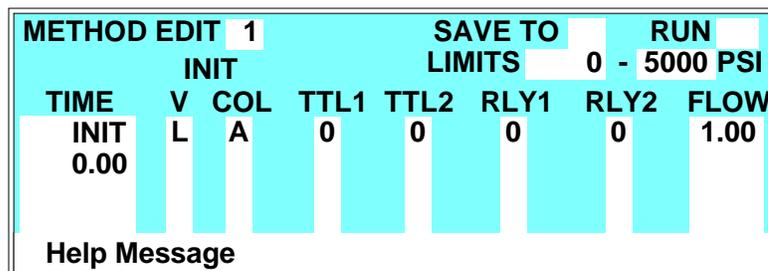

Figure 3-3. Method Screen: Creating a New Method
- In the **V** column, select the position of the injection valve, either **L** for load or **I** for inject (see Figure 3-3).
4. In the **EDIT** field, enter the number of the method to be created. You can enter the number of an unused method or the number of an existing method that you want to edit and save as a new method. If you enter the number of an unused method, the screen will look similar to the example screen in Figure 3-3.
6. Each method starts out with two timed steps (see Figure 3-3). The first step is an initial conditions step with **INIT** in the **TIME** column. The second step is a time zero step with **0.00** in the **TIME** column. The parameters in each of these first two steps can be changed but the steps cannot be deleted. Enter the parameters for these two steps as required for the method.